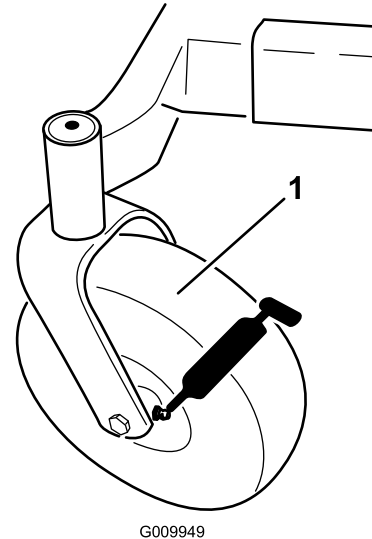

Figure 42
3. Clean the grease fittings (Figure 42 and Figure 40) with a rag. Make sure to scrape any paint off of the front of the fitting(s).
4. Connect a grease gun to each fitting (Figure 40 and Figure 42). Pump grease into the fittings until grease begins to ooze out of the bearings.